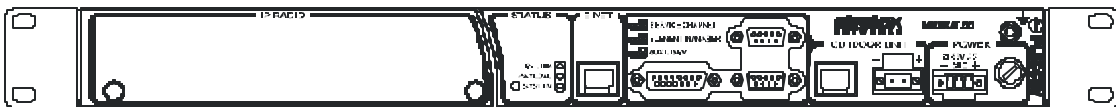

Figure 8-11. Velox LE IP DIU
- Velox LE 50 (with optional 16 T1/E1 interface card) (see Figure 8-11 below).